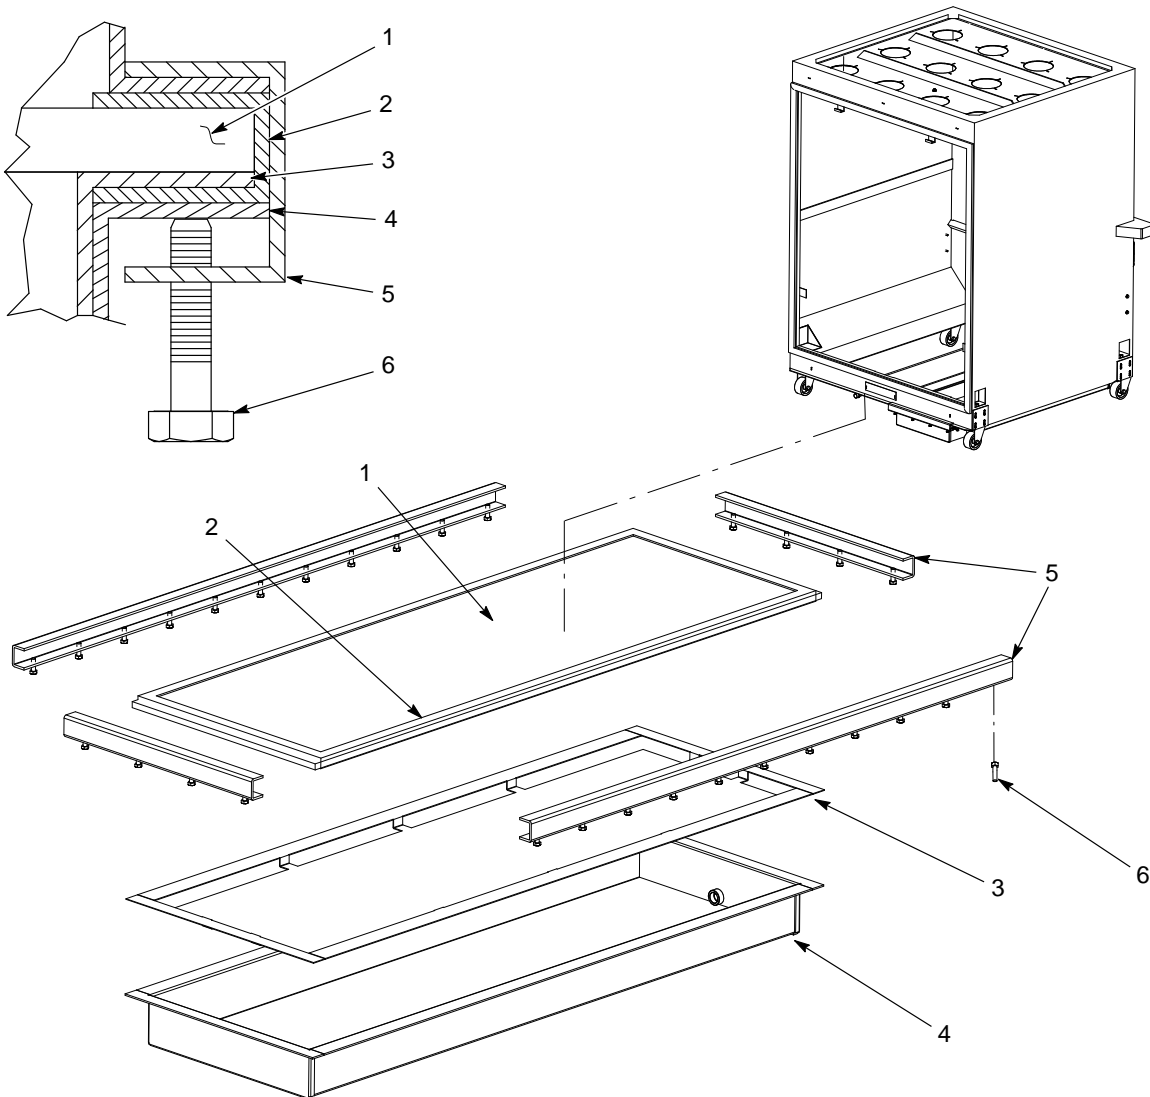

Figure 6-4 Typical Color Module Fluidizing Plate Replacement
2. See Figure 6-4. Unscrew the clamping-channel screws (6) about 6–10 mm (0.25–0.375 in.) to clear the fluidizing plate gaskets (2). Support the fluidizing plenums (4) and remove the clamping channels (5).
4. Separate the old fluidizing plates (1), gaskets (2), and diffuser plates (3). Discard the old fluidizing plates.
6. Assemble the fluidizing plenums, diffuser plates, gaskets, and fluidizing plates as shown in Figure 6-4. Install the diffuser plates between the gaskets and the fluidizing plates.